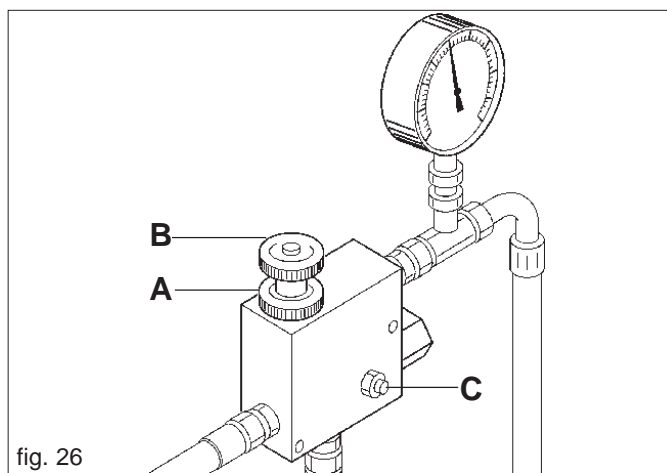

fig. 26
If you wish to increase the number of revolutions of the fan for distributing heavier seeds, carefully proceed as follows (Fig. 26):
- loosen the handwheel (A Fig. 26);
- rotate the handwheel (B Fig. 26) clockwise or anticlockwise to reduce or increase pressure and adjust the number of revolutions of the blower accordingly.
It is strictly forbidden to touch act on the dowel (C Fig. 26) for any reason, as this would unset the system and could lead to the motor or pump breaking.